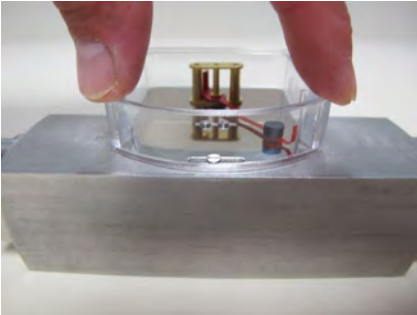

Fig. 63
- 14.** Fit the plastic housing onto the display base plate and press down until it snaps into place. (Fig. 63)